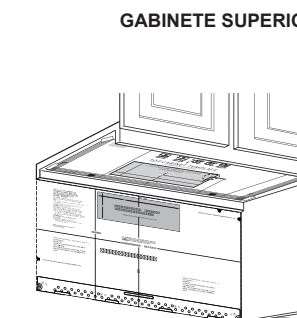

FIG. 4
6. For recessed cabinets, make 2 filler blocks out of scrap wood the size of the shaded areas F & G. These filler blocks must have a thickness equal to the depth of the cabinet recess. Drill 3/8" diameter holes in these blocks to line up with A & B. Place the blocks so that the holes in each block line up with the corresponding holes in the cabinet. The filler blocks should be at the same level as the bottom edge of the wall cabinet frame. Fig. 4.